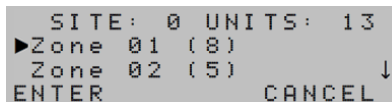

Figure 8-19: Network Status display – site information
2. The screen in Figure 8-19 displays, listing the site number, the total number of alarm units, and a list of zones with the number of units each contains.